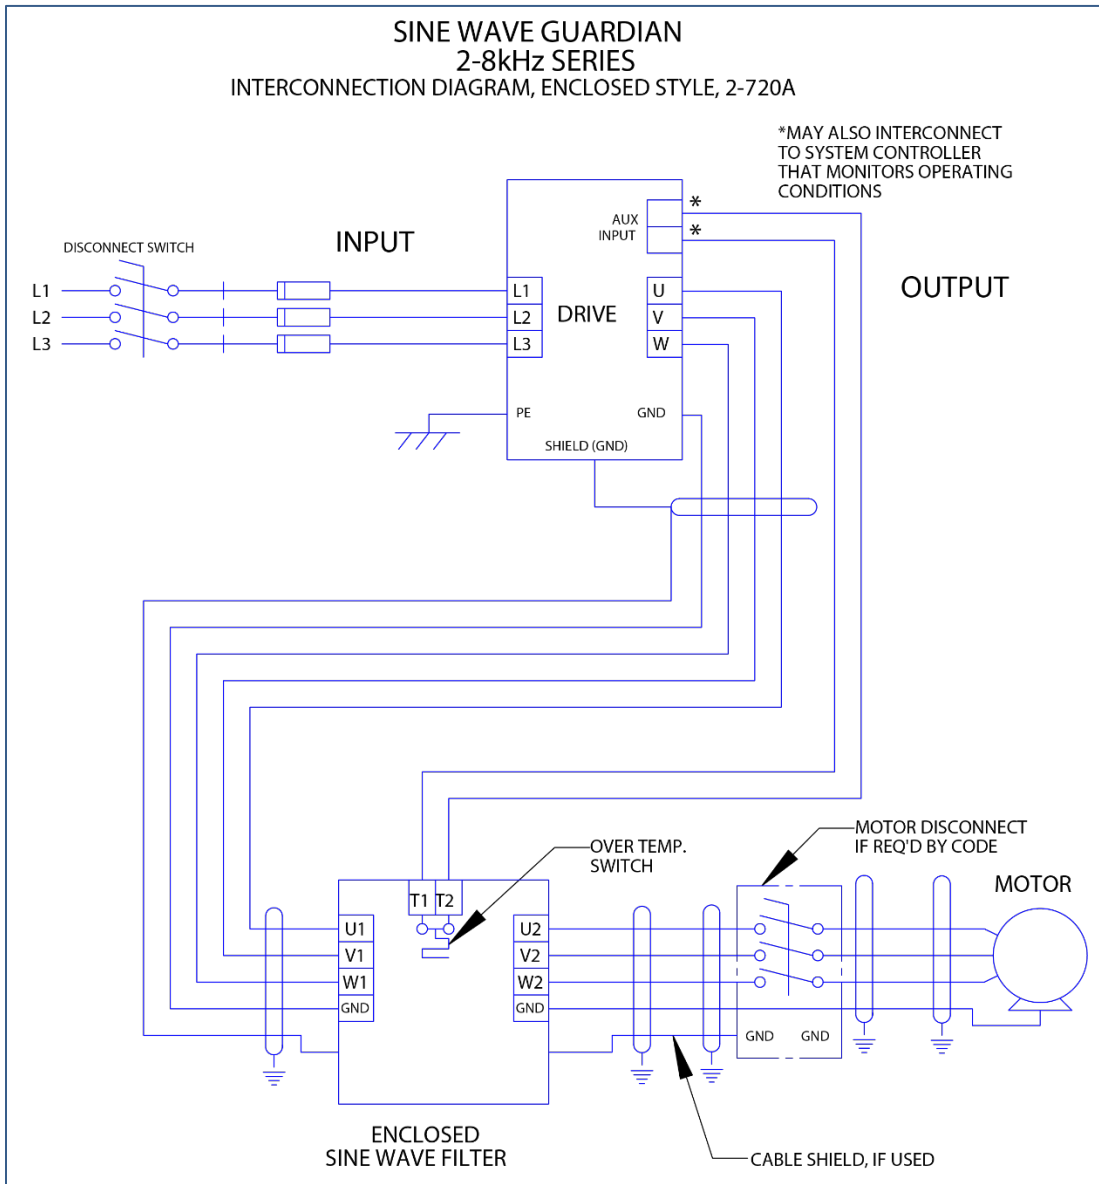

Figure 5-2: Enclosed Interconnection
- For filters supplied in general purpose NEMA 1/2 & NEMA 3R cabinets, interconnection between the filter, its power source, the motor, and the drive is shown in Figure 5-2: Enclosed Interconnection (p28).